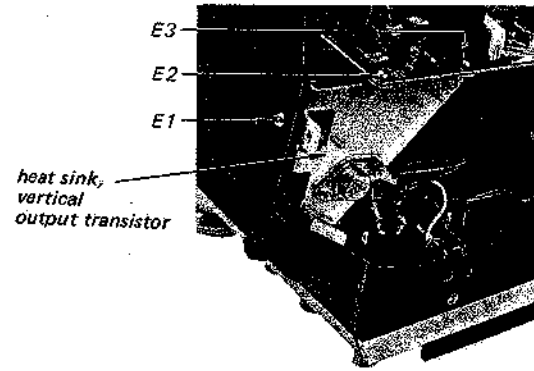

Fig. 2-9.
2. Remove the three screws labeled E1 E3 in Fig. 2-9.